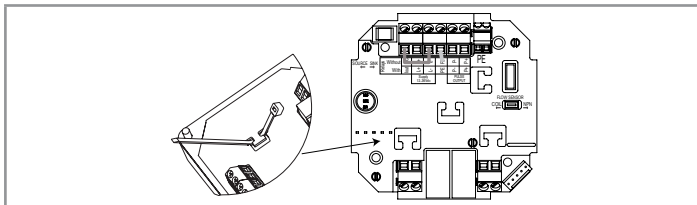

Fig. 23: Inserting the cable clips
- For the versions with relays, insert the cable clip as shown in Fig. 23.
- Insert the cable clips: See Fig. 23, page 37